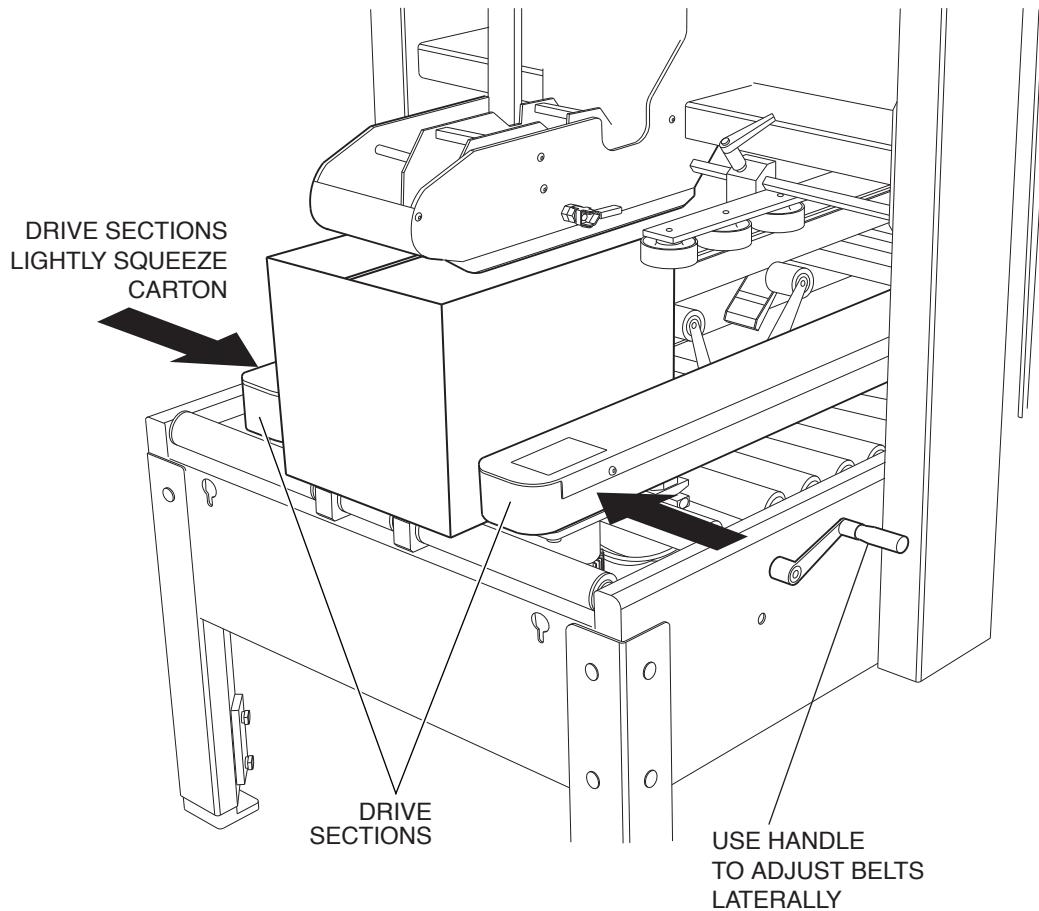

Figure 12 Width adjustment
3. Set a carton on the machine, as shown in figure 12.
4. Use the width adjustment handle to move the drive sections closer together until they lightly squeeze the carton, as shown in figure 12.